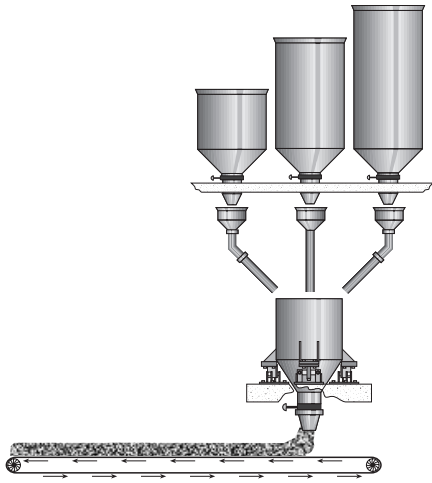

Figure 1-11
- G.** Figure 1-11 illustrates a multiple-ingredient batching system where all the ingredients are weighed one at a time in a single weigh hopper.